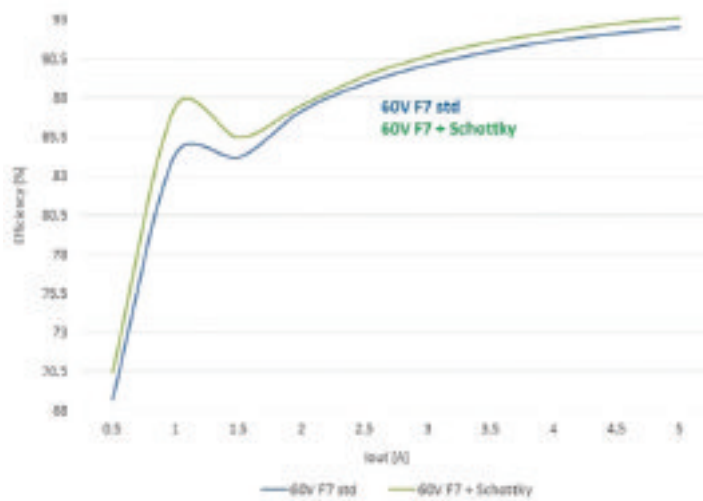

FIGURE 5. Efficiency in a synchronous buck converter.
As shown in (1) and (2), these losses increase with the switching frequency, the converter input voltage, and the output current. Moreover, the dead time, when both FETs are off and the current flows in the Low Side body diode, seriously affects the diode conduction losses: with long dead times, a low diode forward voltage drop helps to minimize its conduction losses, therefore increasing the efficiency. In **FIGURE 5**, the efficiency in a 60W, 48V - 12V, 250 kHz synchronous buck converter is depicted.